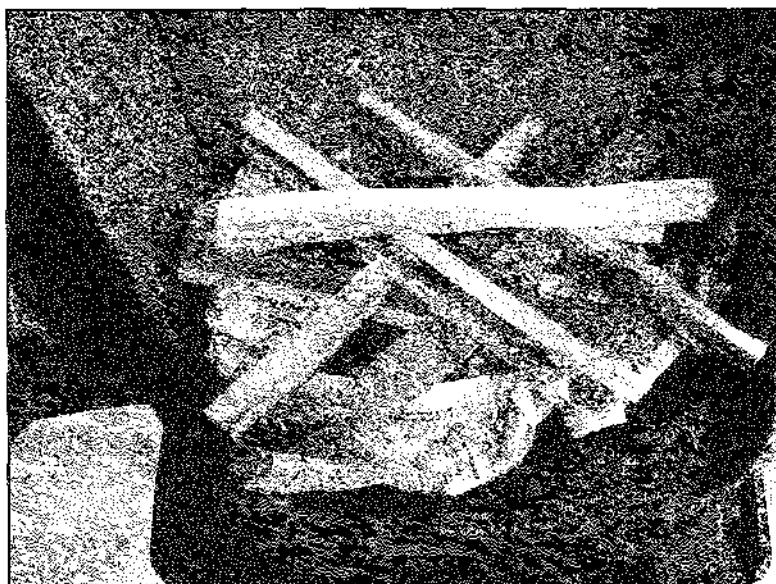

Fig. 10.2: Add small pieces of wood on top of paper allowing for air flow between pieces.
- Use only 1-3 pieces of wood quartered and placed to optimize air flow (see Figure 10.2)